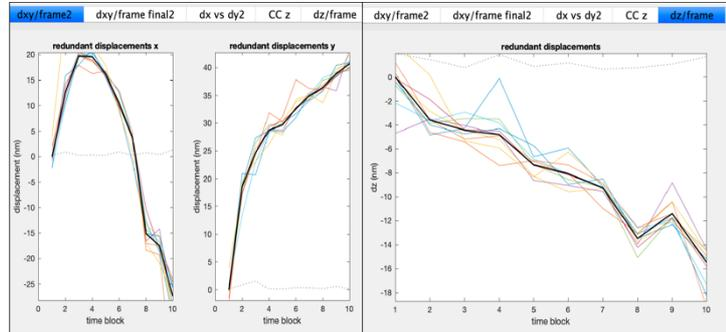

Figure 9: Relative displacement between blocks in redundant cross-correlation.
2. Draw a line ROI through the pores, change the width of this ROI e.g. to 250 nm. Only localizations in the rectangular ROI will be rendered in the 3D viewer (Figure 9).